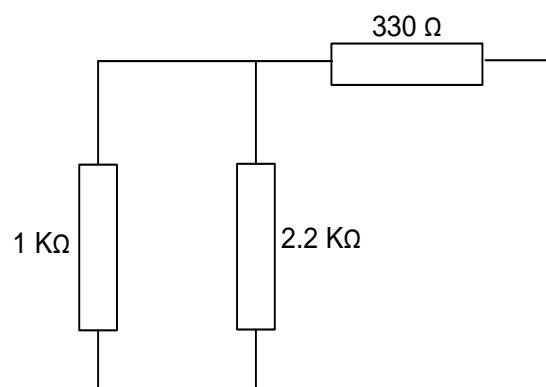

Figure 8
4. Remove the voltage source, as shown in Figure 8. The resistance of this network may be found by connecting a test voltage source between points X and Y. Measure the total current by applying 2,4,6 and 8 V, calculate the resistance using ohm's law, and take the average of the values to find R_{th} , calculate the current through the $680\ \Omega$.